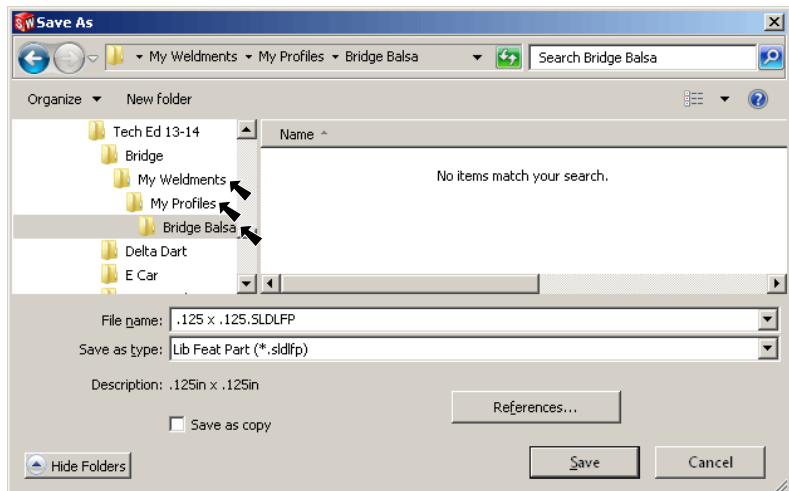

Fig. 16
Step 6. Confirm folders: We just created 3 subfolders, **Fig. 16**
click Save, Fig. 16.